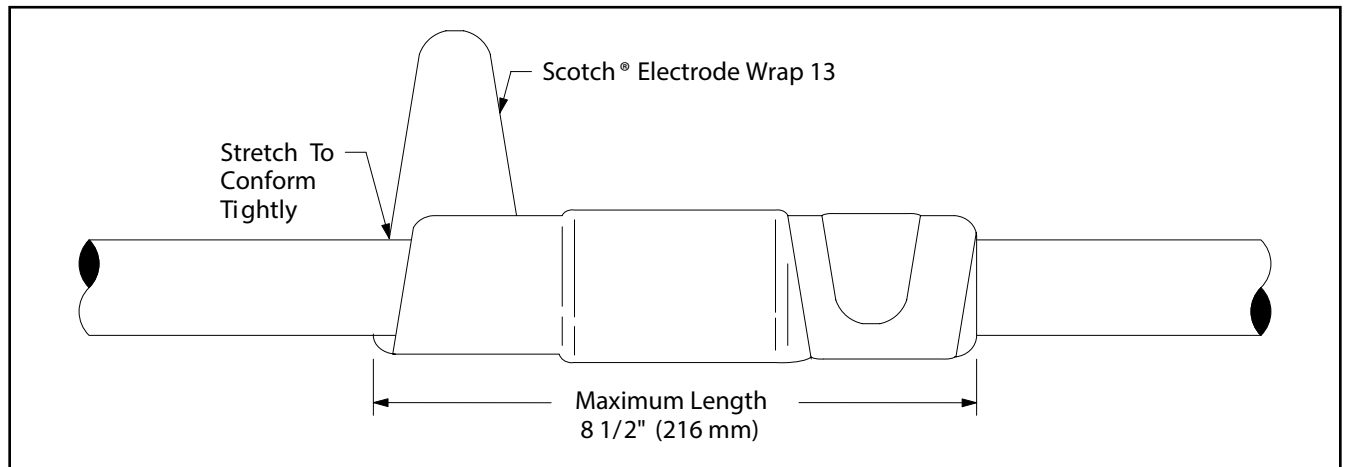

Figure 9
- 5.2 Individually wrap each leg of Scotch® Electrode Wrap 13 over area at ends of connector and cable insulation. Apply with adequate tension so legs conform tightly onto cable insulation (*Figure 9*).